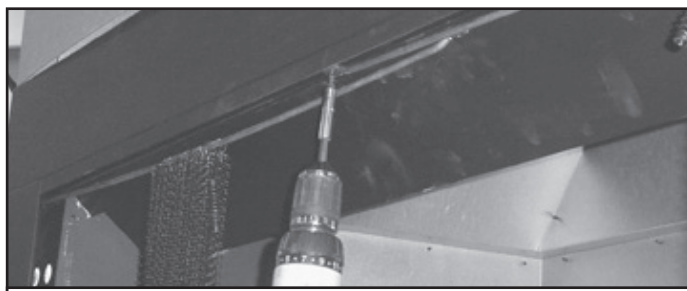

Figure 3.9 Removing the Screen Rods
- Remove screens by removing screw from the end of each screen rod. See Figure 3.9.